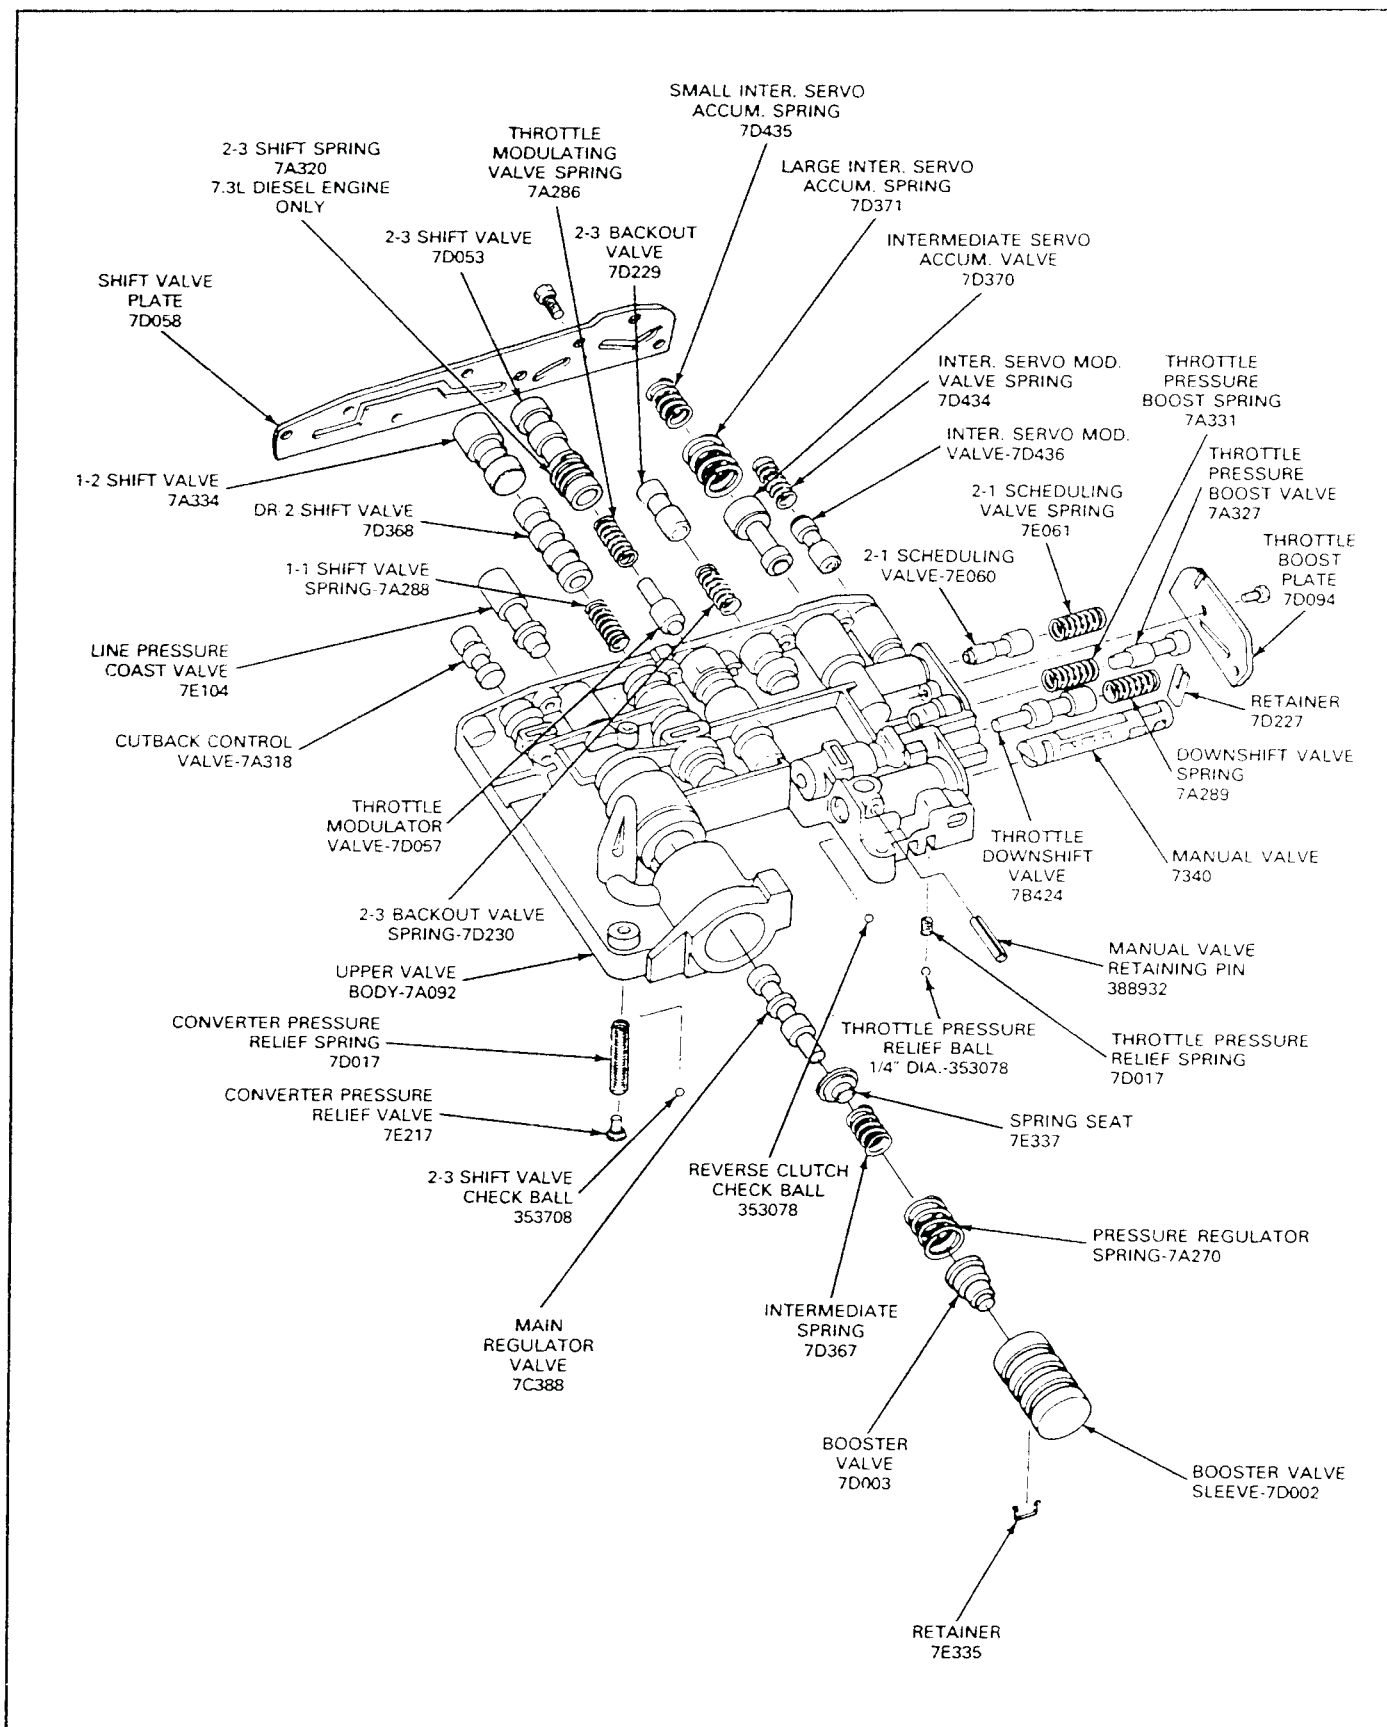

FIG. 26 Upper Valve Body Disassembled
11. Remove the spring and the intermediate servo modulator valve (Fig. 26) from the valve body.
16. Remove the line pressure coasting regulator valve, (Fig. 26) from the body.
9. Place the cutback control valve (Fig. 26) and the line pressure coasting regulator valve in the valve body.